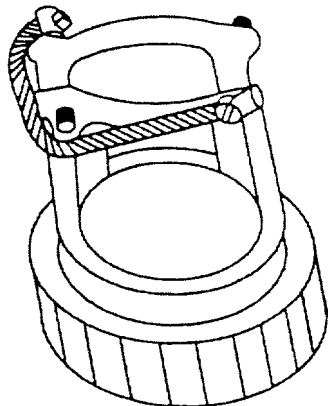

Figure 20. Strain Relief Safety Cable Installation.
42. **Strain Relief Components.** The screws, which secure saddle clamps and other strain relief components, shall be secured with safety cable by installing the safety cable between the heads of two screws (Figure 20).
If safety cable on a strain relief wraps across metal corners as shown in Figure 20, and the application is for high vibration areas,